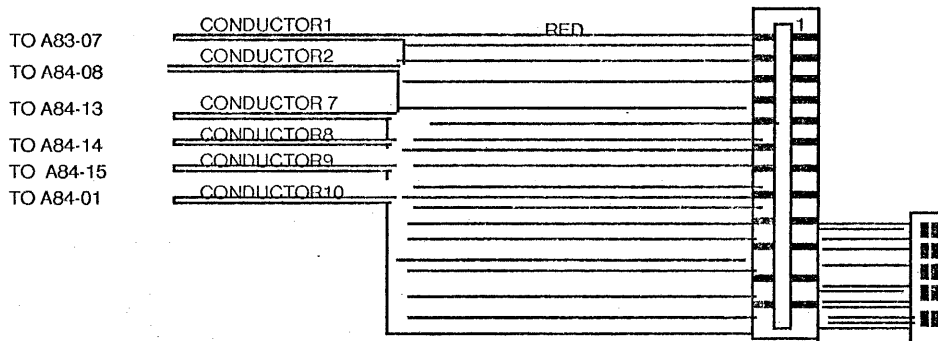

FIG. 4
7.0A ADD WIRE (OSERVE FIGURE 4)